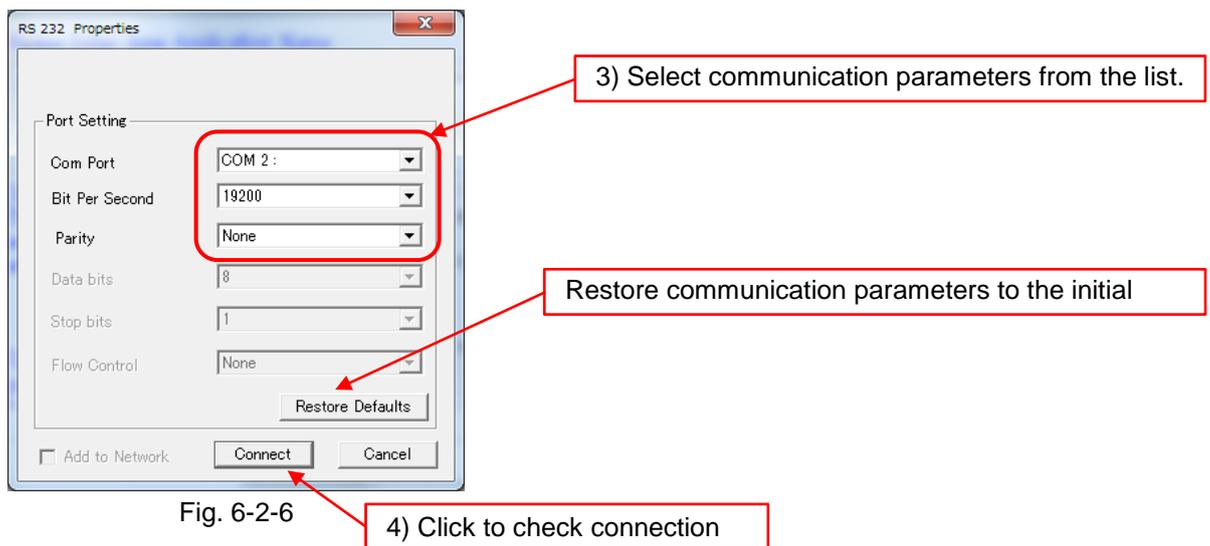

Fig. 6-2-6
- 2) Click **Properties...** button. Communication parameter screen (Fig.6-2-6) will be displayed.
When you click **OK** button, you will return to communication parameter screen (Fig.6-2-6), so please check the set parameters. Also, check to ensure the cables in use are not broken, disconnected or connected incorrectly.